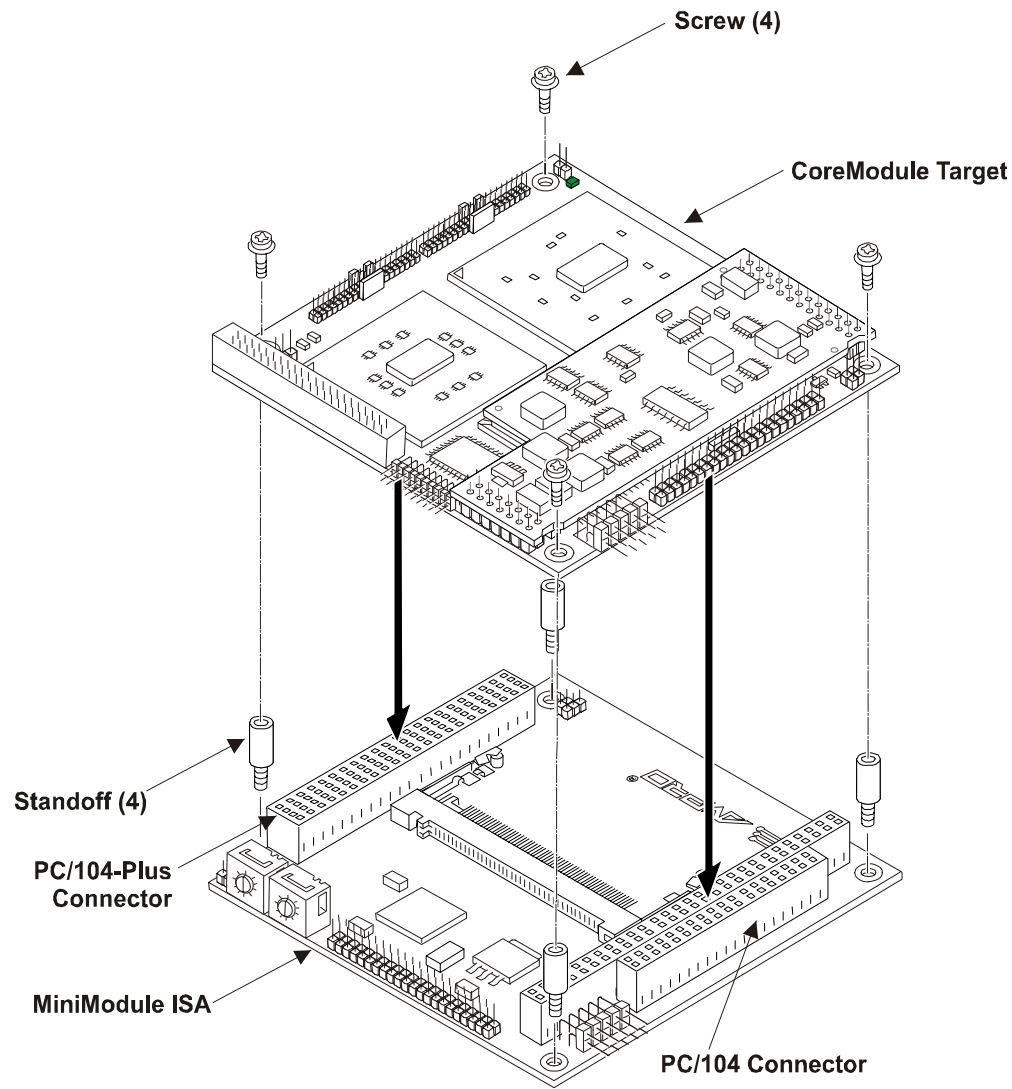

Figure 2-4. Installing MiniModule ISA on CoreModule Target
10) Install the spacers on the target board.	<ul style="list-style-type: none"> • Install the threaded spacers onto the target board at the four corners of the MiniModule board. See Figures 2-4 and 2-5.